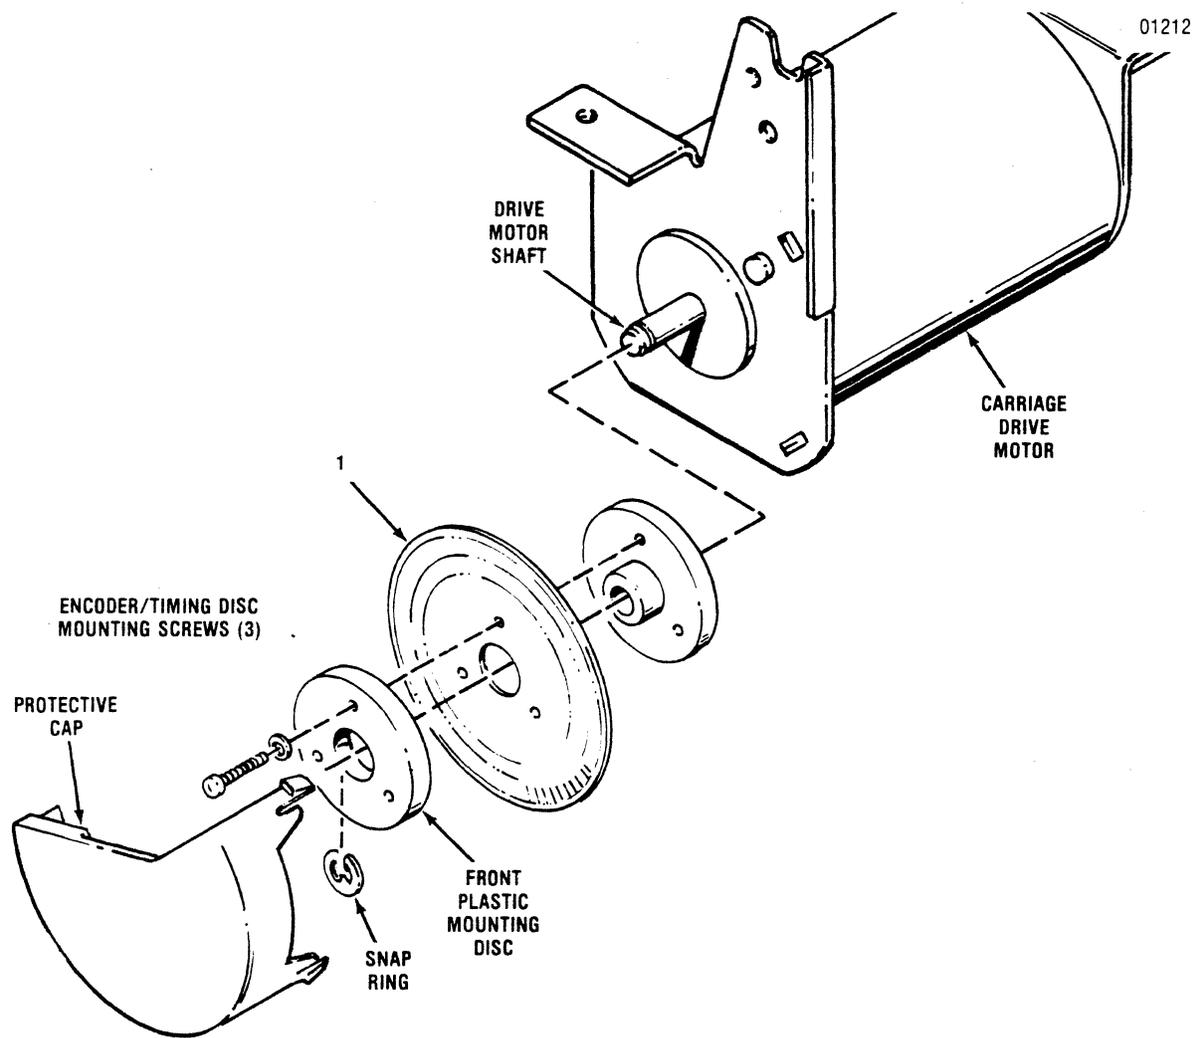

Figure 3-12 Removal/Replacement, Encoder/Timing Disc
The encoder/timing disc, item 1 in Figure 3-12, is located at the end of the carriage drive motor shaft and is removed using a Phillips screwdriver. To remove the disc, refer to Figure 3-12 and perform the following steps:
5. Remove the front mounting disc and the encoder/timing disc (1) from the motor shaft.